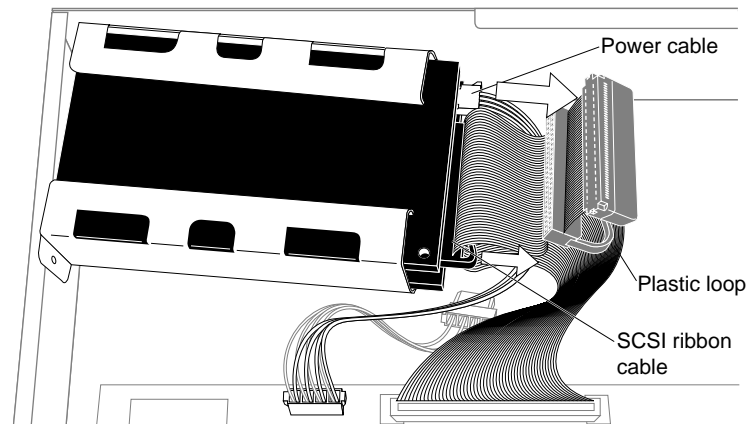

Figure 8-34 Disconnecting the Power and SCSI Cables From the System Disk Drive
- Disconnect the power cable connector from the system drive, as shown in Figure 8-34.